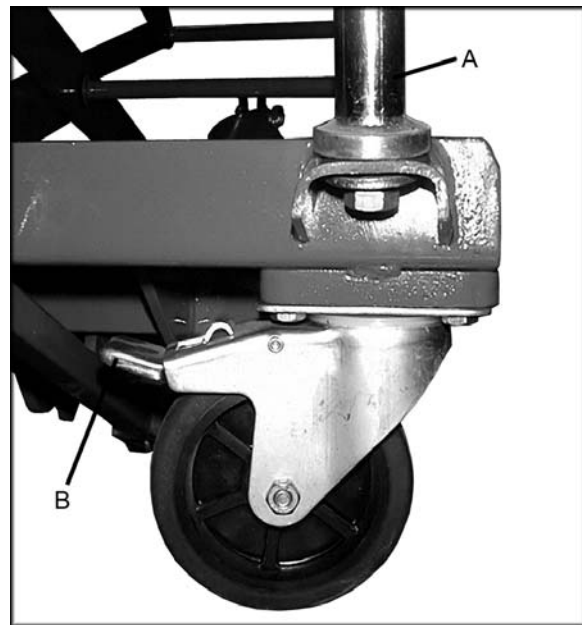

Figure 1
1. Attach the handle (A, Figure 1) to the frame using two hex cap bolts, two lock washers, two flat washers. Tighten with a 19mm wrench.
Note: The two rear casters can be locked so that they do not rotate. Press foot lever (B, Figure 1)